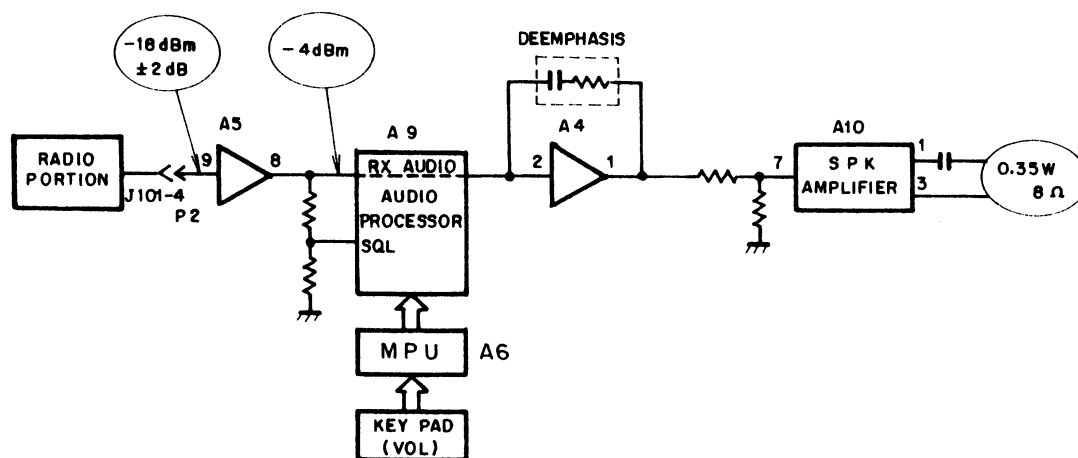

FIGURE 8 - RECEIVE AUDIO OUTPUT
- b. **Control Board:** The receive RF signal enters at P101, Pin 4 and is amplified by audio amplifier A5. The signal is then applied through a 300-3000 Hz BPF and a 46 dB volume level control the Audio IC. The signal is then amplified by audio amplifier A4 and SPKR amplifier A10 to drive the speaker. Typical levels needed to obtain a 1 KHz, 0.365 Watt receive rated audio output are shown in Figure 8.